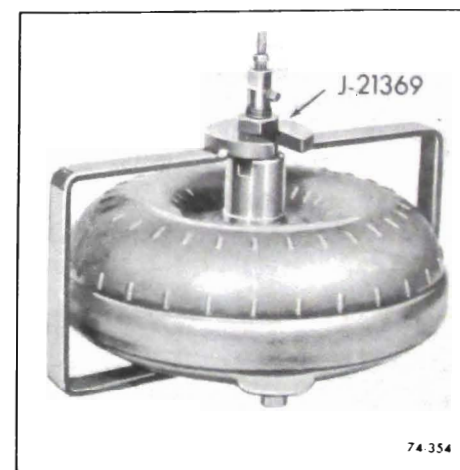

Figure 75-306
1. Install tool J-21369 and tighten. See Figure 75-306.